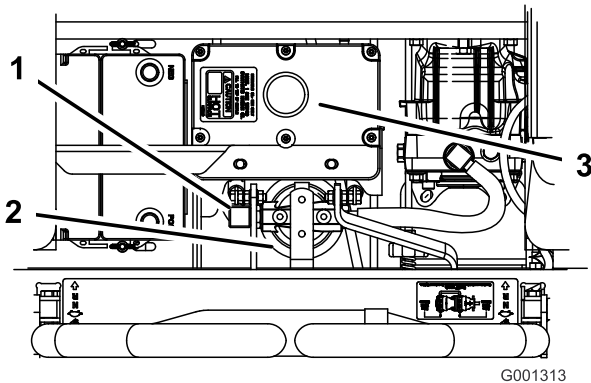

Figure 70
4. Remove the righthand hydraulic line that comes into the adapter (Figure 70).
6. Install the righthand hydraulic line to the adapter (Figure 70).